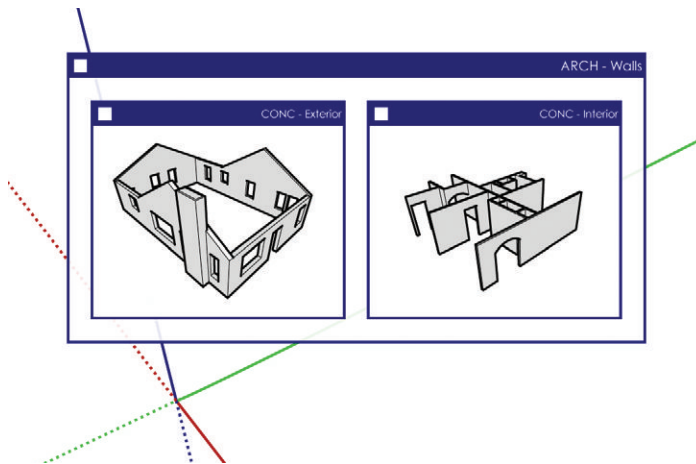

Figure 17.34 Walls with interior and exterior “switches”
5. Using the *Select* tool, double-click into the new group of walls. In the *Entity Info* dialog, assign the *Exterior Walls* group to the *CONC – Exterior* layer and assign the *Interior Walls* group to the *CONC – Interior* layer (Figure 17.34).